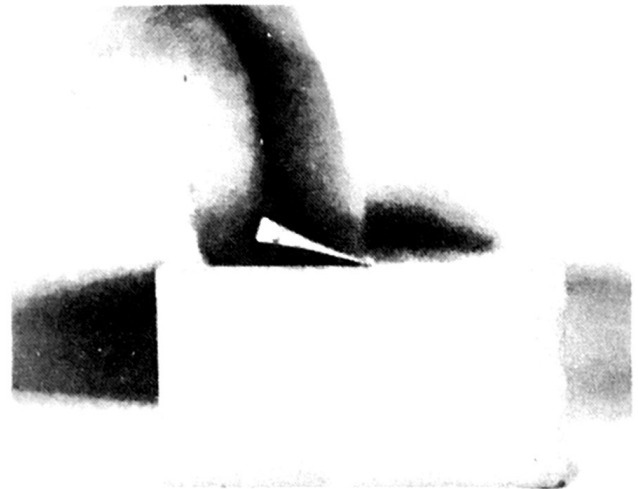
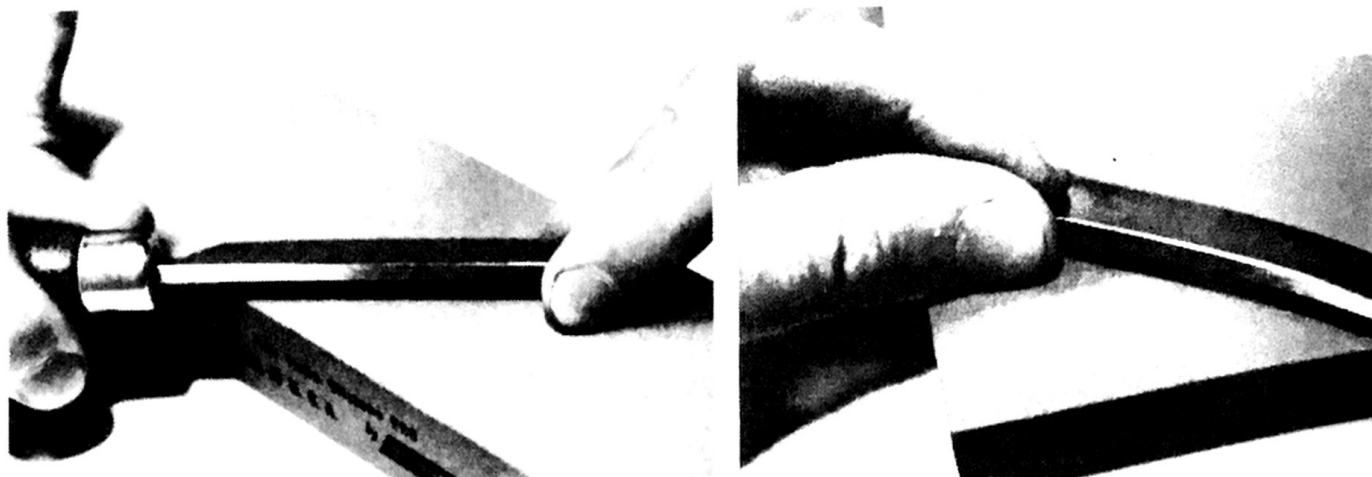

Figure 22: The Raised Lift Angle
Figure 23: Using the Thumb or First Finger to Maintain a Consistent Lift Angle
4. Holding the knife properly will greatly improve your results. Use two hands to apply even pressure all along the blade and use a thumb or a finger to maintain a consistent lift angle (see Figs. 22 and 23).
Consistency of Lift Angles: The raised lift angle used should be approximately the same for the front and the back of the knife (the spine is lifted about 1/4 inch off the stone as in Fig. 22). Do not worry if it is not exactly the same on both sides, but be consistent on each side. Consistency is achieved by using your thumb or forefinger as a spacer as shown in Fig. 23, and sliding your thumb or finger along the stone as you move the knife.